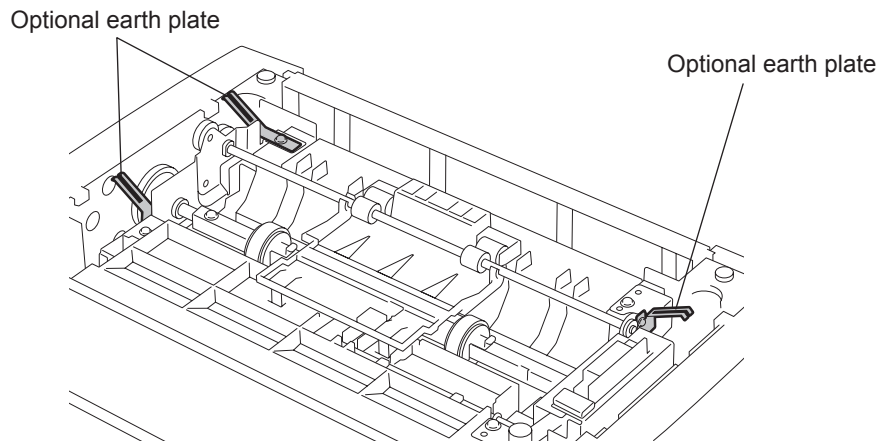

Fig. 10-23
- 16) Optional earth plate (P.10-15 "Fig. 10-23")